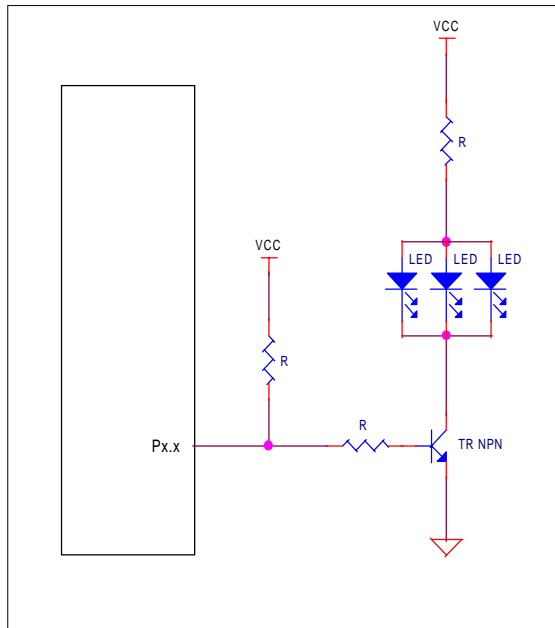

Figure 3.3 Use an additional external pullup resistor
1. Add an external pull-up resistor as shown in figure 3.3.